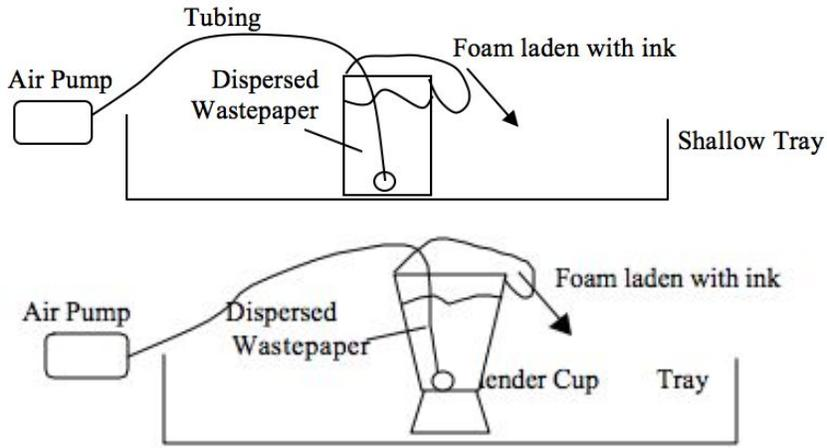

Figure 1. Flotation deinking set-up.
2. See Figures 1 and 2 for suggested setup.